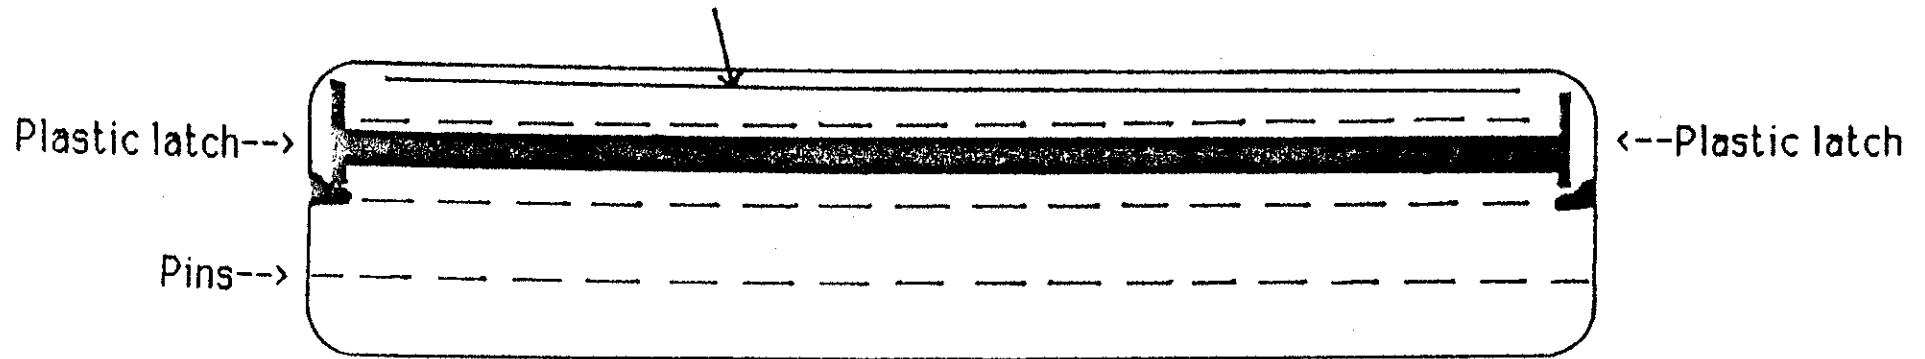

FIGURE 9
9. See figure 9. Remove the "H" shaped retaining clip by inserting the pocket screwdriver into one of the small slots in the retaining clip and prying towards the other slot. The retaining clip will pop up on the side the screwdriver is inserted in, use a finger to hold that side up while you insert the screwdriver in the other slot and release the other side. Lift retaining clip off of the chip and set aside.